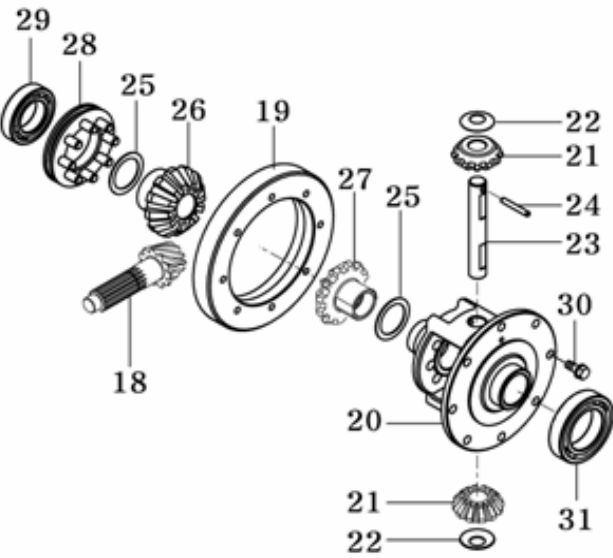

Fig.5-32
- As shown in Fig5-32, there are two kinds of differential side gears. Although are case hardened, the one installed on the side of the diff-lock is treated further and colored black. Take care not to mix them when assembling.